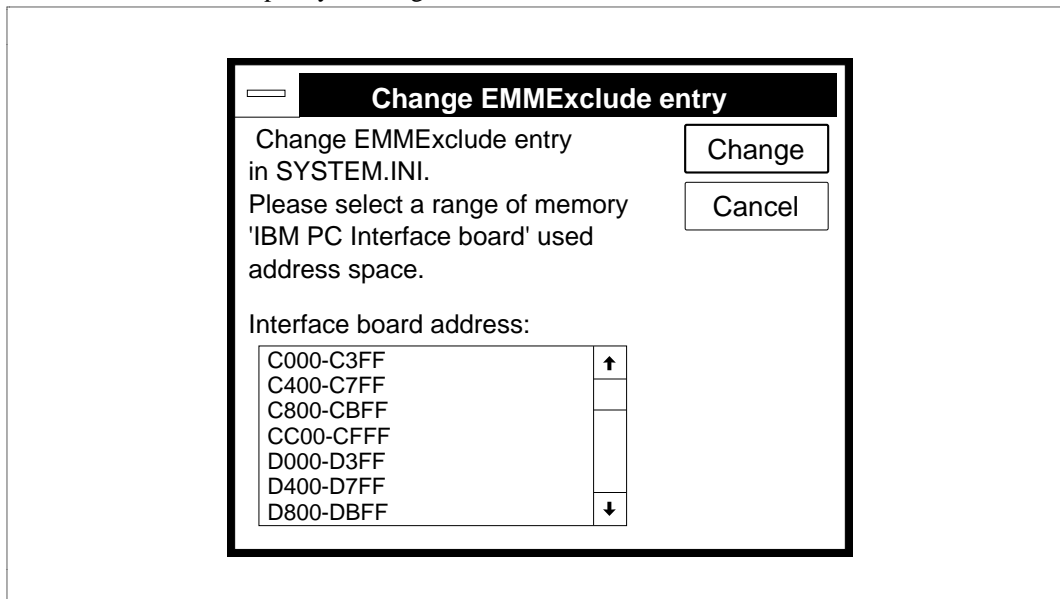

Figure 2-8 Specification of Memory Address Range for IBM PC Interface Board (INSTALL)
- (12) A dialog box is displayed to select the memory address range for the IBM PC interface board, as shown in figure 2-8. Specify the memory address range. For example, select "D000-D3FF" to specify the range from D000:0000 to D3FF:000F.